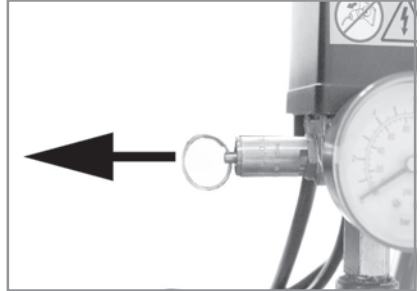

Figure 6
2. Check the operation of the safety valve, under pressure, daily by pulling the ring as shown in figure 6. Air should be released as you pull the ring and stop when the ring is released.